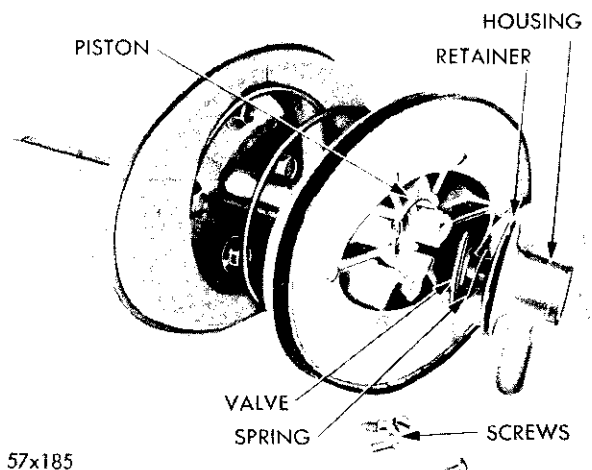

Fig. 50—Removing the Valve Housing from the Piston
(4) Remove the tube and housing attaching screws and separate the valve housing from the piston, as shown in Figure 50.